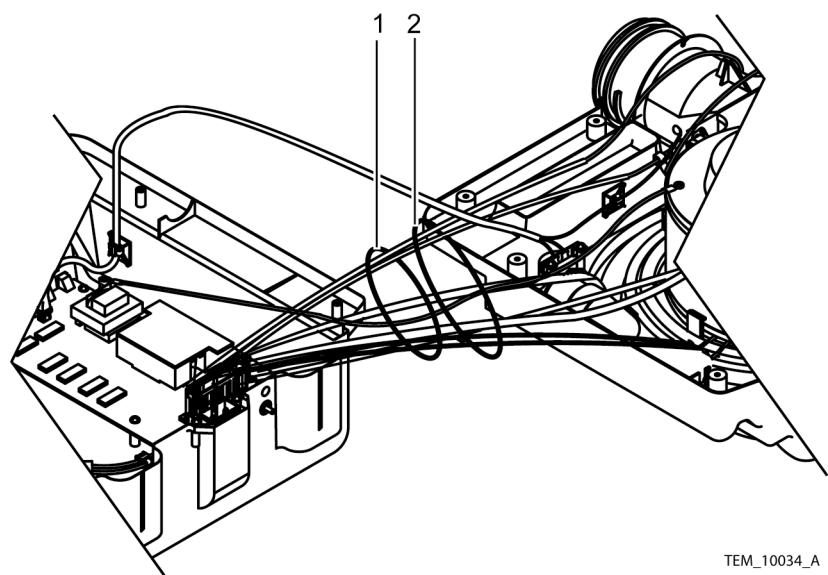

Figure 5-23. Cable Harness Ties
13. Install the cable harness bundle ties. See Figure 5-23, item 1.